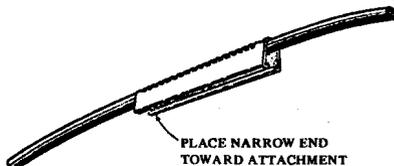

FIGURE 2. Placing Clamp Shell
- c. Place the shell of the clamp over the wire with the narrow end pointing toward the knob or hook. The wire should be flat in the shell before the wedge is inserted. See Figure 2.